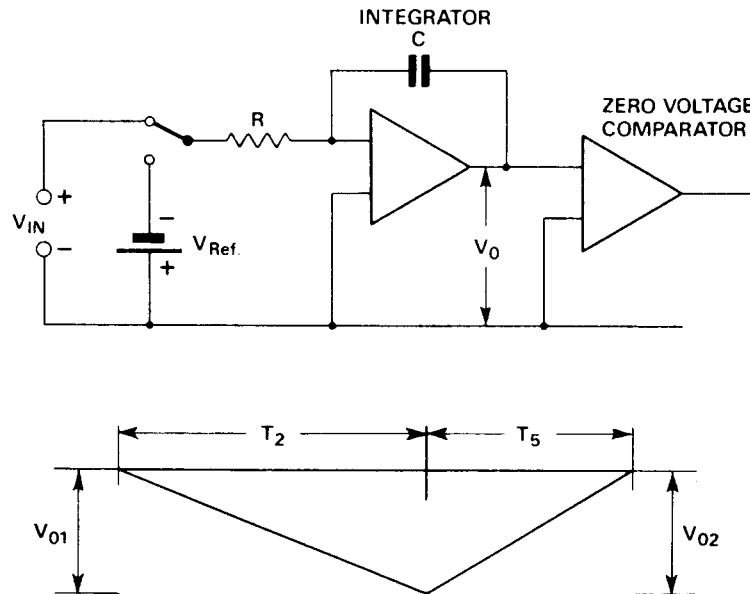

Fig. 2 Simplified dual slope integrator
4.2 PRINCIPLE OF OPERATION (Fig. 2)
The analogue to digital conversion is basically of the dual slope type. The dual slope integration method is to convert a d.c. input voltage to an accurately proportioned time interval displayed by a digital readout. This is achieved by an integrator Fig. 2.